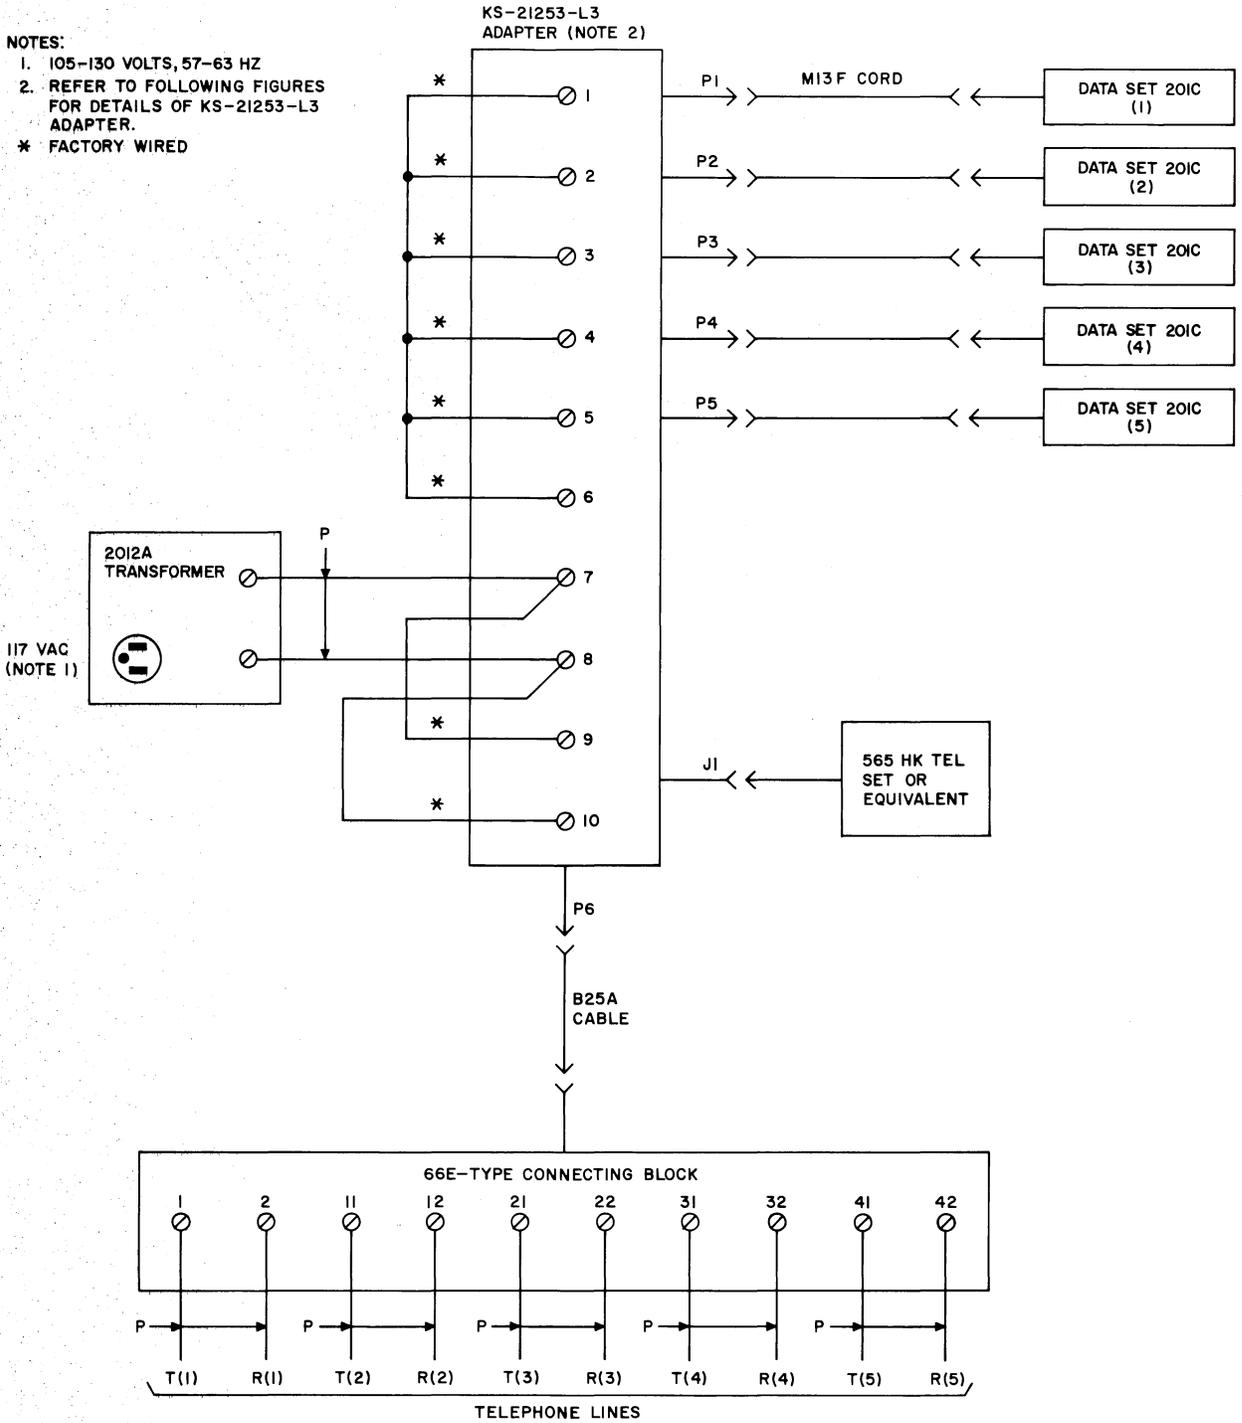
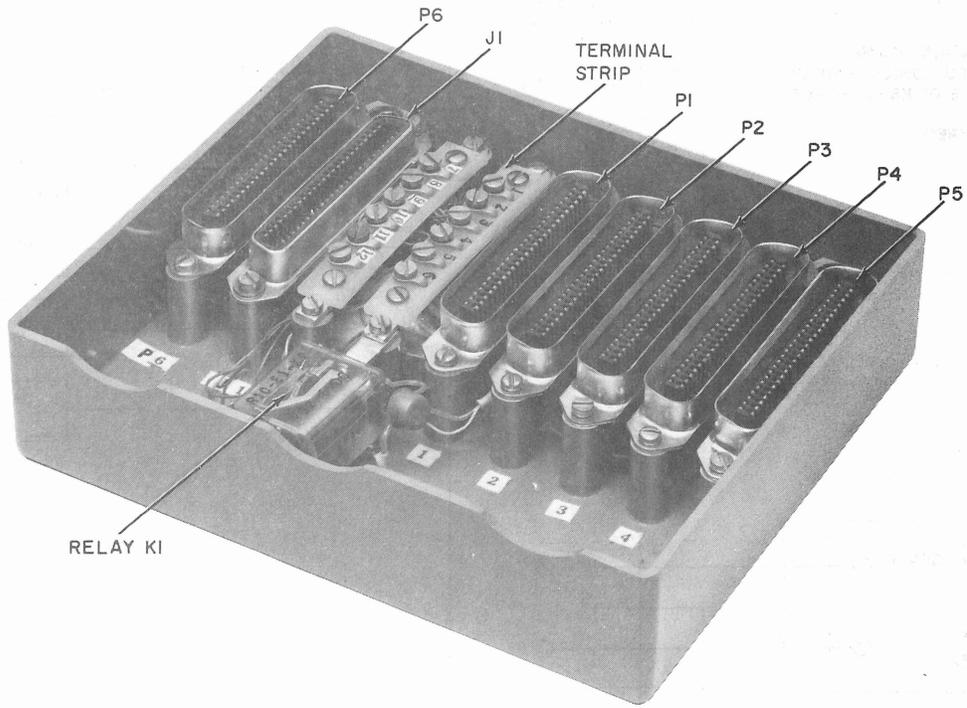
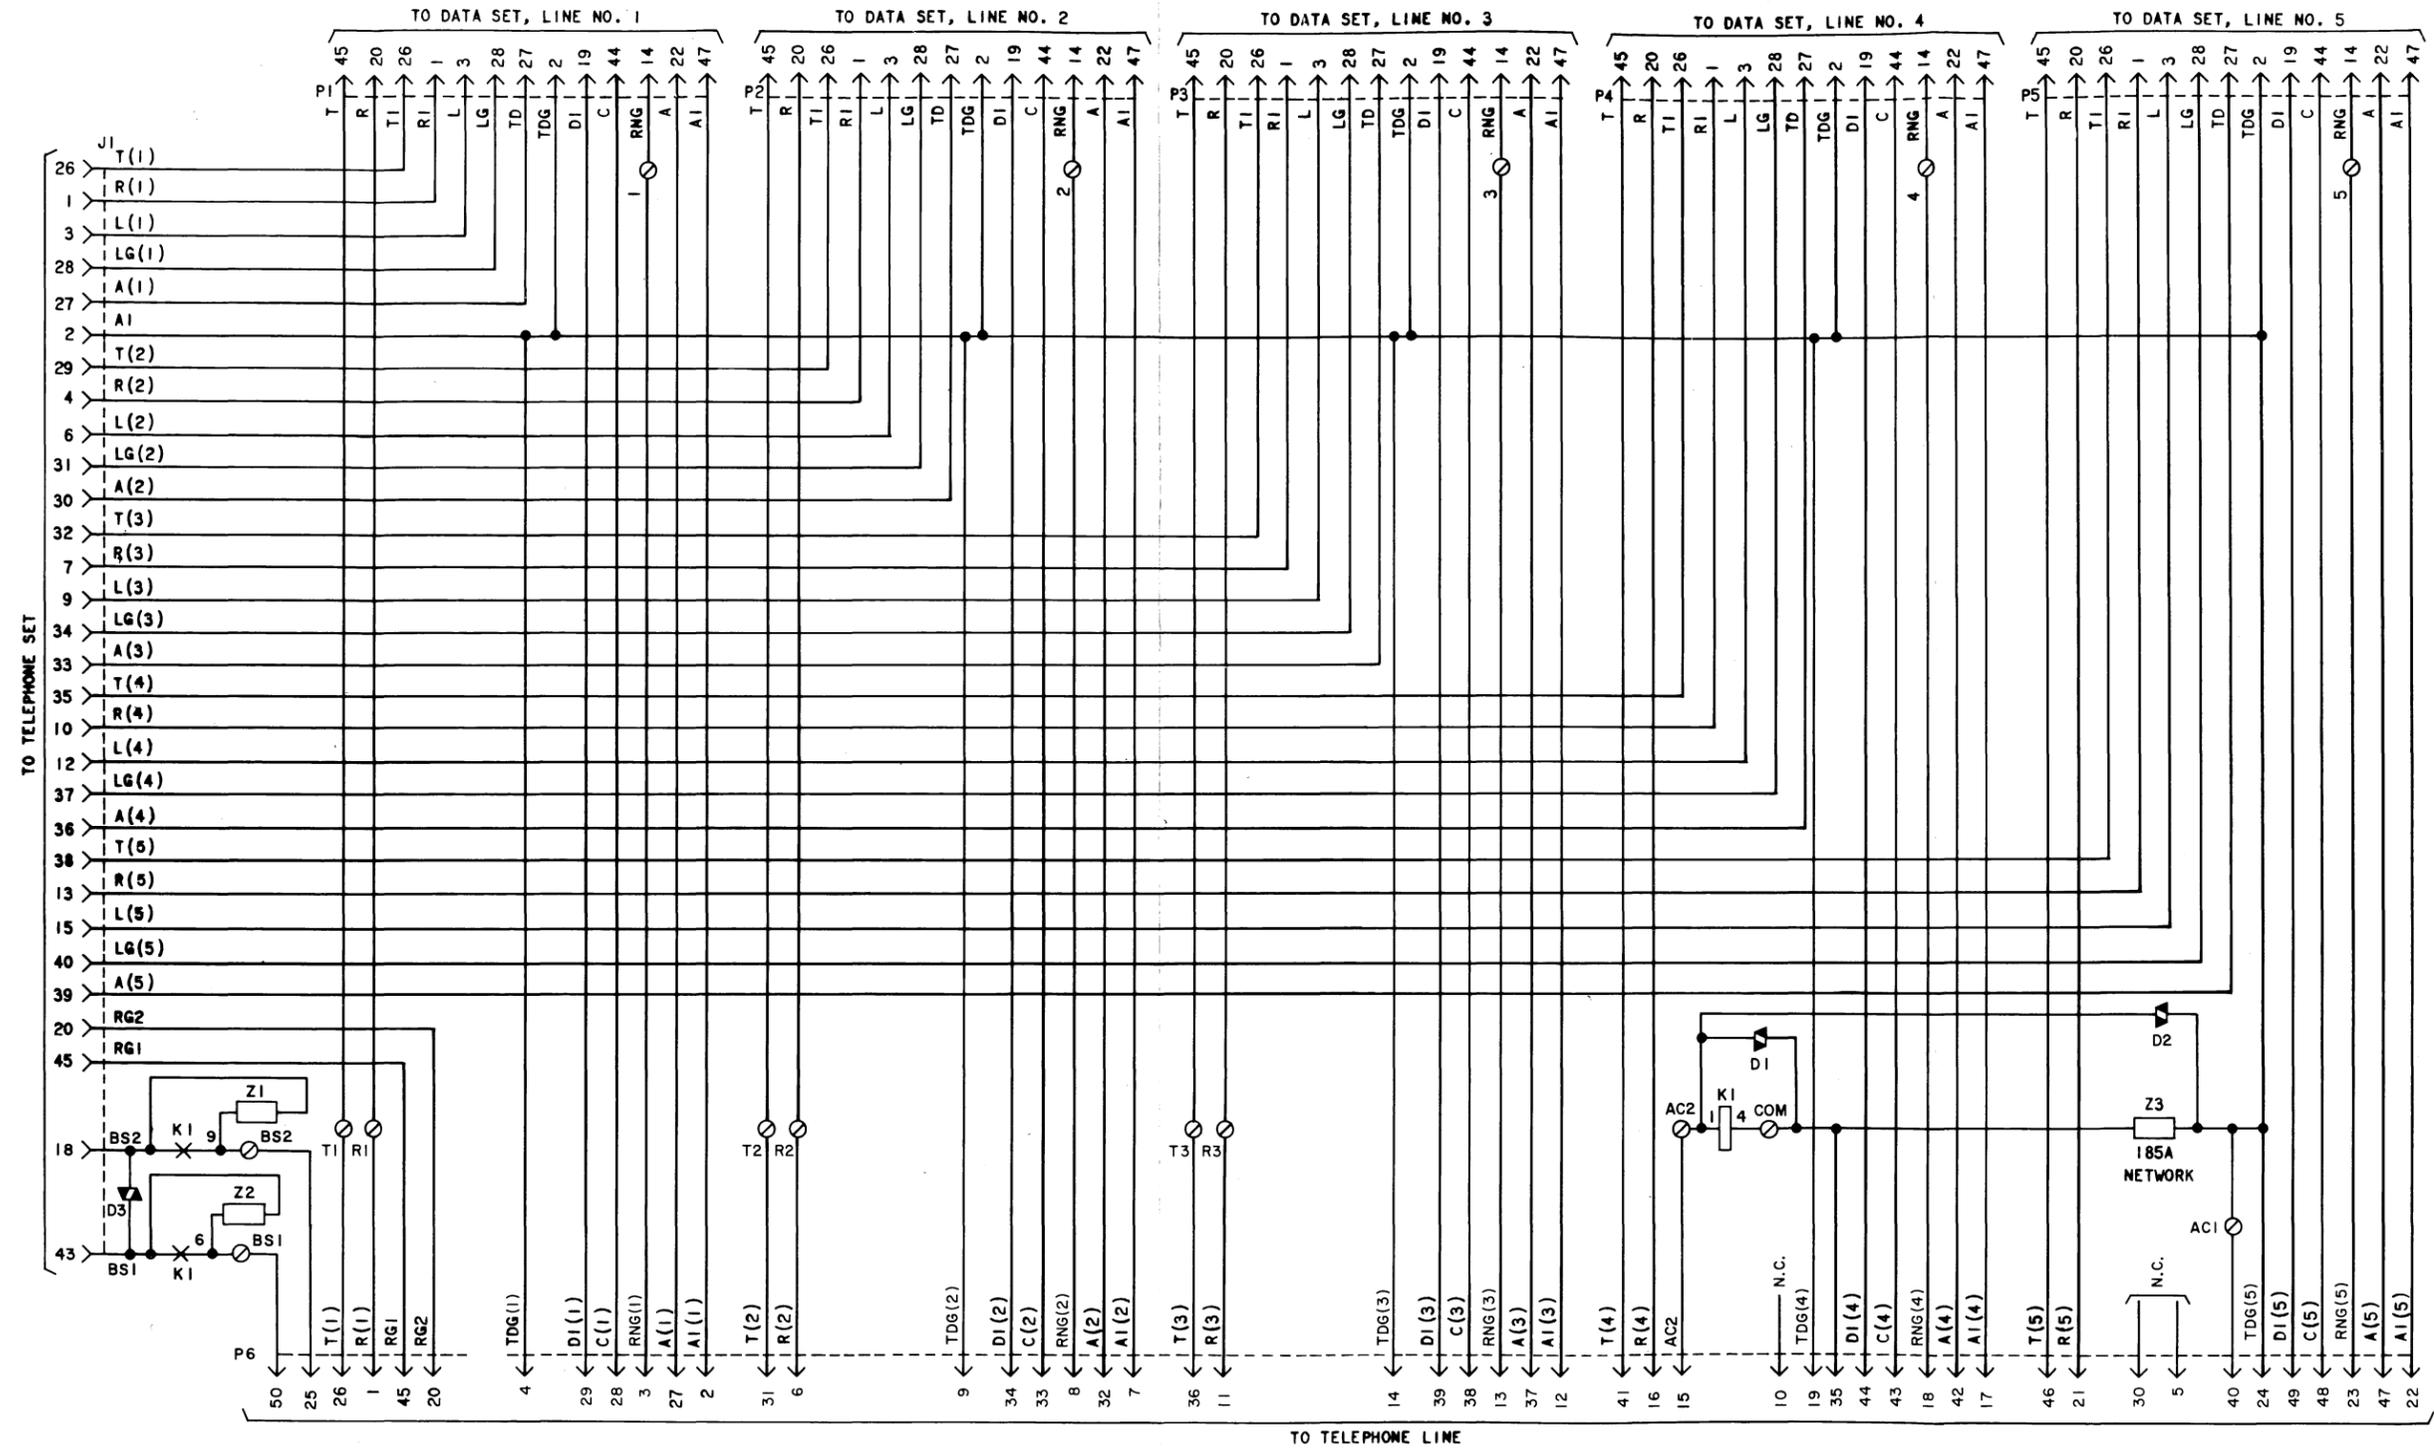

Fig. 3—Connections for Switched Network Multiple Installation of Data Set 201C
Fig. 4—KS-21253-L3 Adapter With Cover Removed
Fig. 5—Internal Connections of KS-21253-L3 Adapter
4.10 Connections for the switched network installation using five 201C data sets are shown in Fig. 3. The 565HK telephone set can handle up to five data sets. If more data sets are required, then another KS-21253-L3 adapter and 565HK telephone set are needed in this same configuration. The KS-21253-L3 adapter is shown in Fig. 4 and its internal connections are shown in Fig. 5. Connections for the switched network